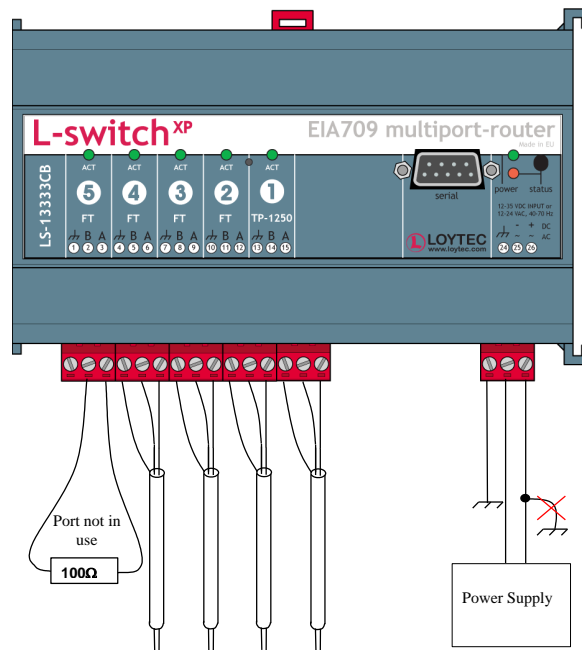

Figure 7: Connecting the L-Switch XP (LS-1333CB)
**Important:** *Do not ground the power supply wire on terminal 26 (LS-xxxxCB) or terminal 17 (LS-xxCB) as shown in Figure 7!*
Figure 7 shows an L-Switch XP where Port 5 is not used.